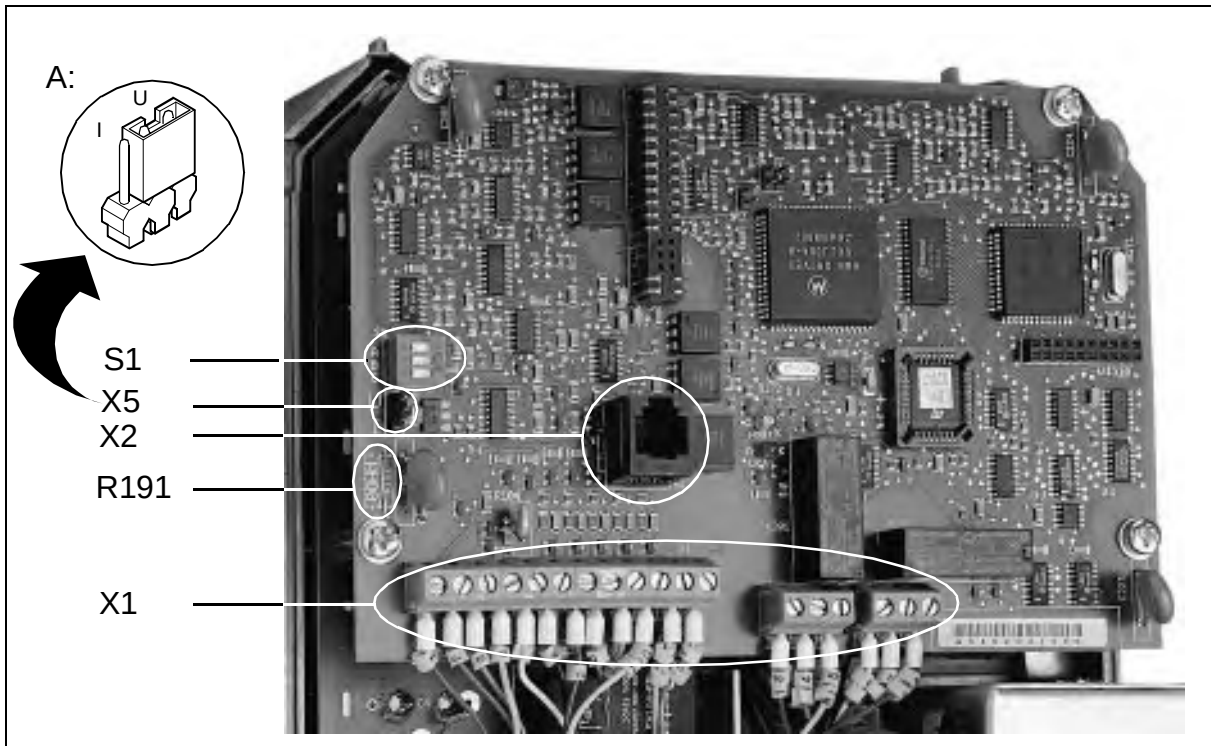

Figure 4-1 Control Card
The analogue input signal is selected with jumper X5 as shown in figure 4-1 enlargement A: I = current 0(4) to 20 mA and U = voltage 0(2) to 10 V.
¹⁾ Refer to figure 4-1 "Control Card" on page 24 for voltage/current reference selection.